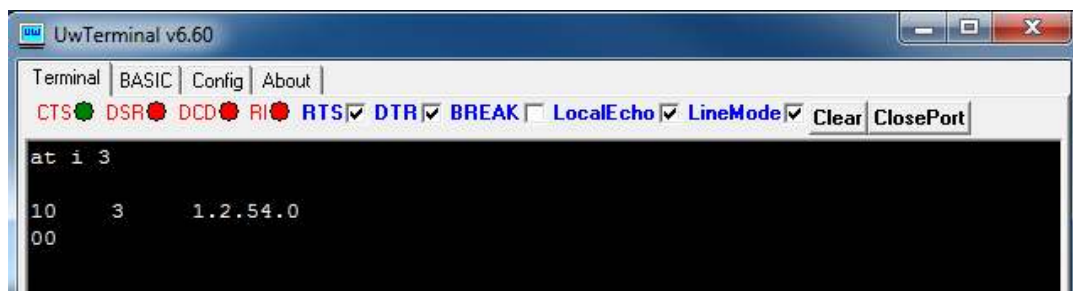

Figure 12: Issuing AT I 3 to check firmware version
5. Send the string **ATI3** as shown in Figure 12: